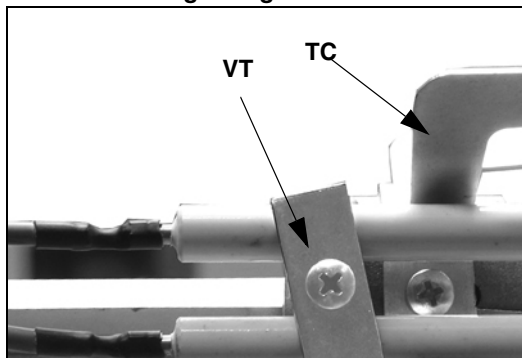
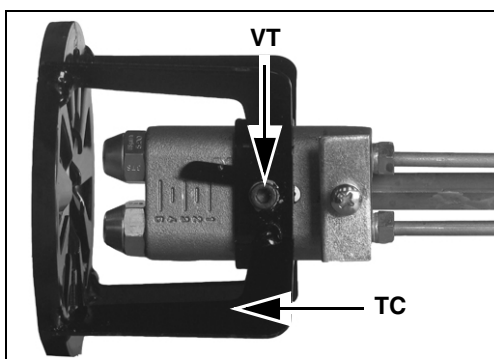

Fig. 31
Fig. 32
- Unscrew the nozzles using two wrenches (16 and 24 mm), as shown in Fig. 31 - Fig. 32.